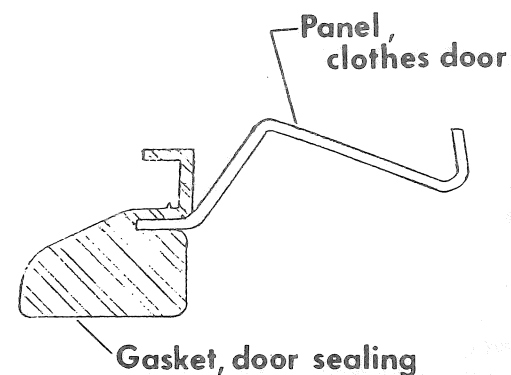

Figure 4-2 Cross Section Without Glass
2. Position the door sealing gasket into the inner recess of the door panel. (See Figure 4-2, cross section without glass)